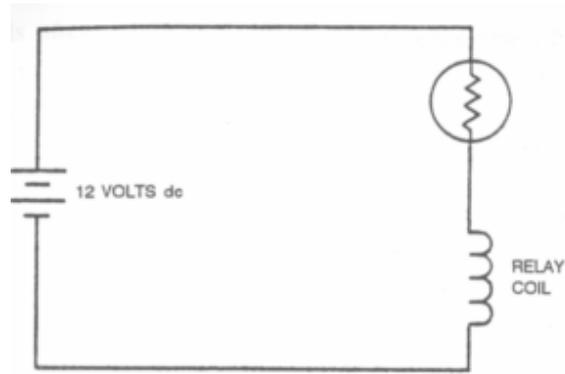

Figure 13-9. Cad Cell Controls Relay Coil.
2. The sense of operation of the circuit cannot be changed. The circuit shown in Figure 13-9 permits the relay to turn on when the cad cell is in the presence of light. There may be conditions that would make it desirable to turn the relay on when the cad cell is in darkness.